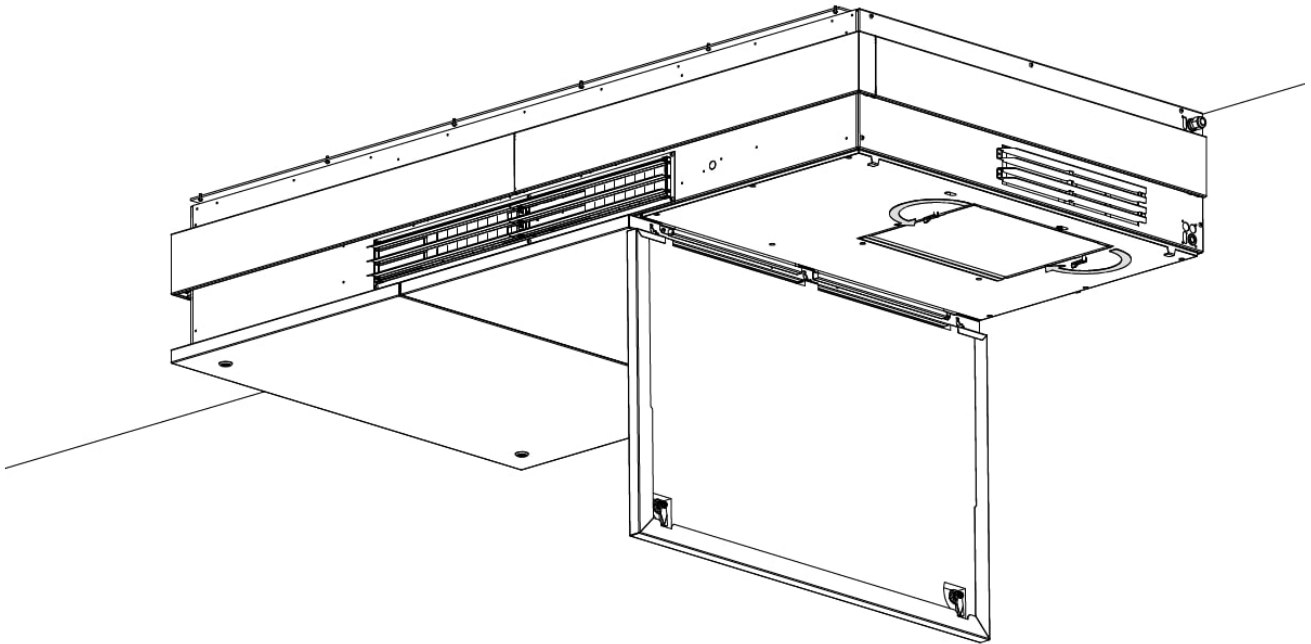

Figure 18: Close the filter hatch
9. Close the filter hatch, see Figure 18.